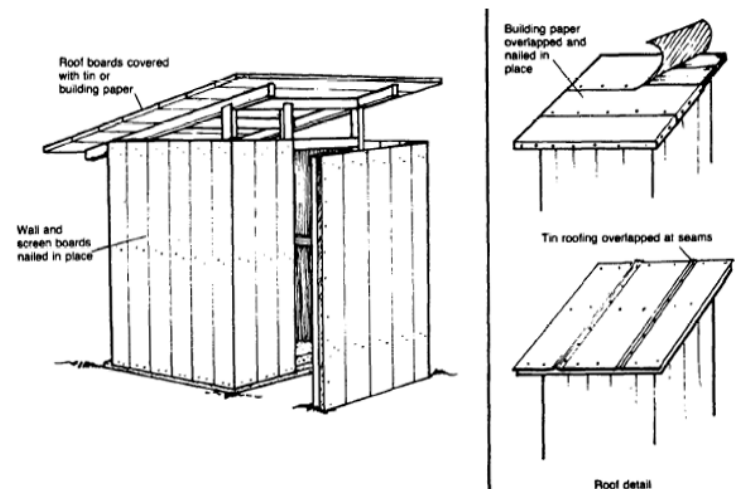

Figure 15. Completed Shelter
6. Build the walls and screening wall by nailing boards to the outside edges of the corner posts as shown in figure 15.
7. Build the roof by nailing crosspieces to the rafters, then nailing tin sheets to the crosspieces. Start from the lower edge of the roof and work toward the higher edge, overlapping the tin sheets as shown in figure 15. The roof should extend about .3m beyond all walls.